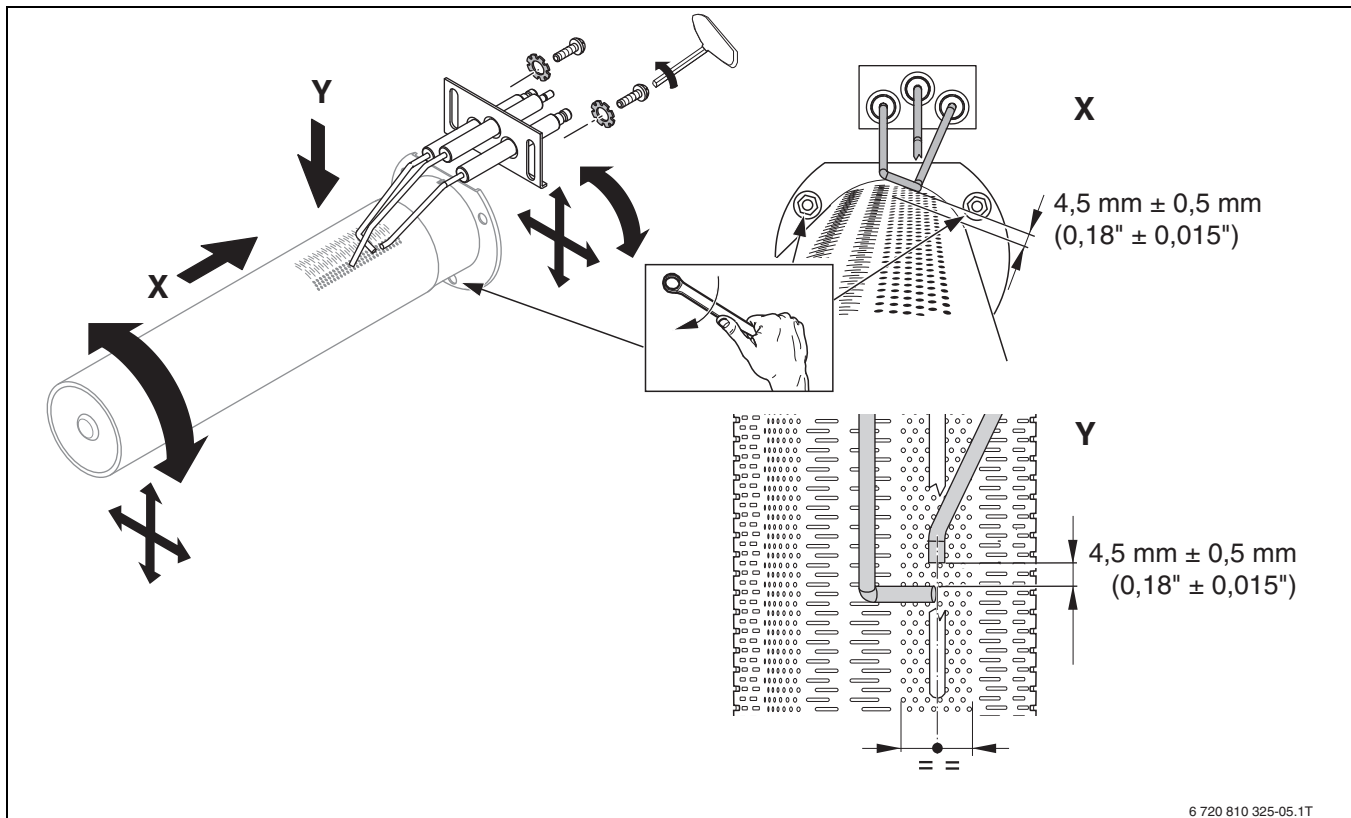

Fig. 65 Setting of electrode position (overview)
- Measure the distances between the electrodes and the burner rod in accordance with → Fig. 65 and adjust with the long holes of the electrodes if required.
- Adjust the burner rod in such a way, that the electrode position corresponds to → Fig. 65.
Adjust the electrodes in accordance with Fig. 65, page 40.
- ▶ Inspect the ignition electrode clearance (burn-off) in accordance with → Fig. 65 and carry out replacement if necessary. Bending the electrodes is not permitted.